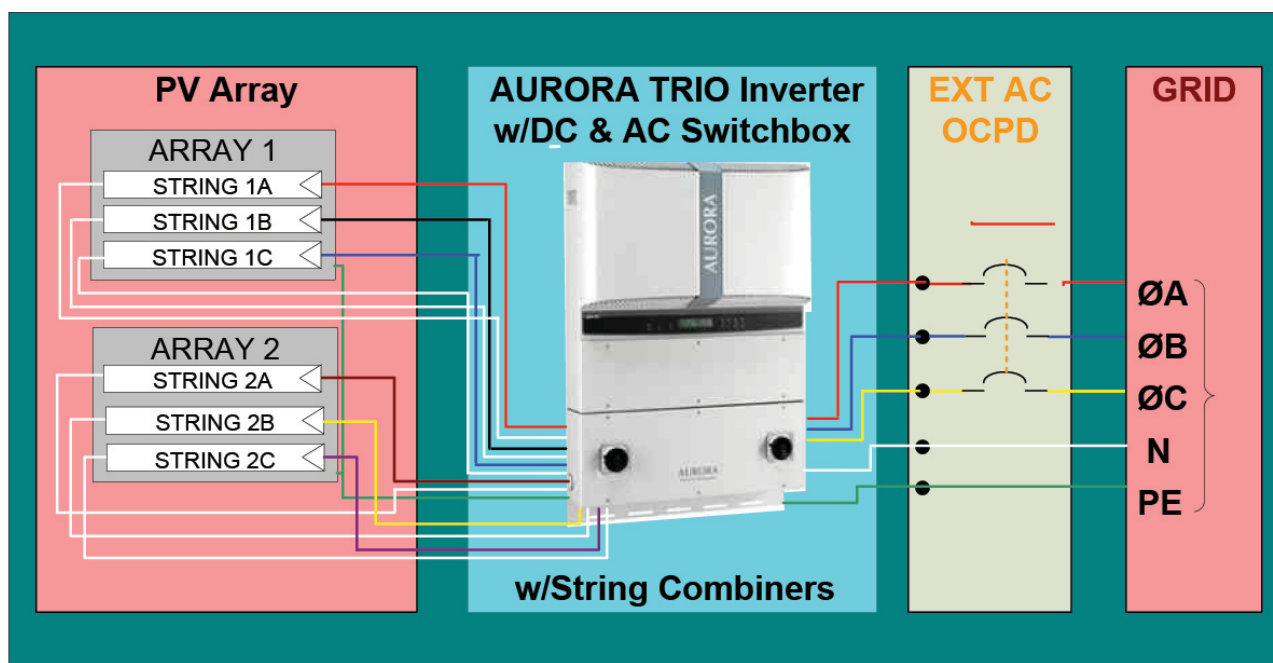

Figure 3:05- Electrical Connection Diagram
- Relevant wiring connections are shown in Figure 3:04
3. Refer to the photo of Figure 3:03 Locate the designated entry locations for the conduits from the DC array and to the AC grid.